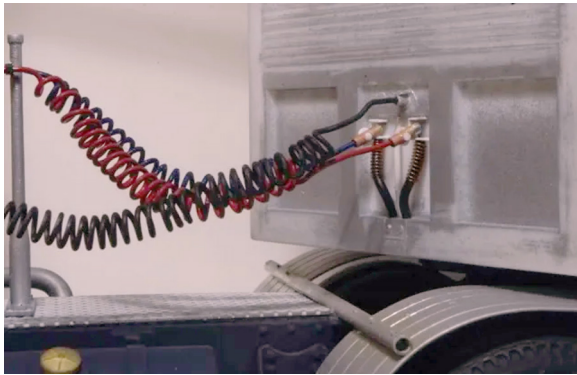

Figure 4-11 – Properly Supported Air and Brake Lines
- b. King pin plate pivots. The king pin pivot plate (1, Figure 4-11) has pivots points on the outside and inside of the pivot plate. There are four grease zerks for this assembly:
4. Check to make sure cable and hoses between the tractor and semitrailer are properly supported, (**Figure 4-11**) do not rub on tractor frame and do not show any signs of wear or damage.